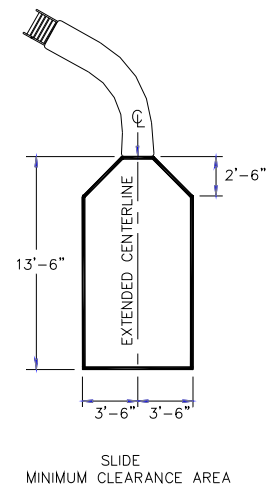

Figure 18
- 2) A minimum clearance area in front of the slide shall be maintained away from the coping, another slide, a diving board or a rope and float line. (See Figure 18)
The minimum clearance distance on either side of the extended centerline of the slide runway shall not be less than three feet six inches (3'-6") at a point no less than two feet six inches (2'-6") from the exit of the slide and extending a distance of thirteen feet six inches (13'-6") in front of the slide. (See Figure 18)